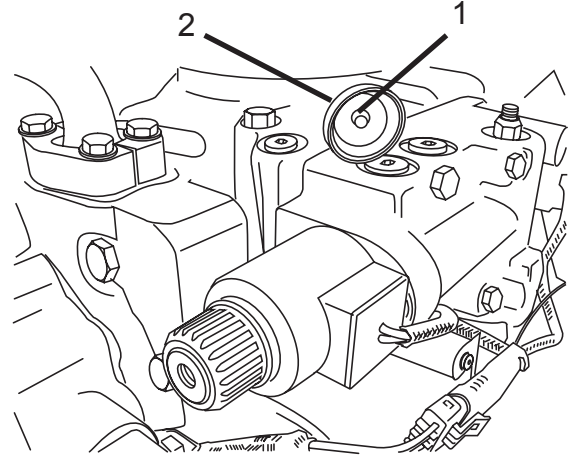

Figure 9
5. **For Traditional Controls with EP (Electric Proportional Controls) Only:** Install the pins (Figure 9, Item 1) in the override caps (Figure 9, Item 2).